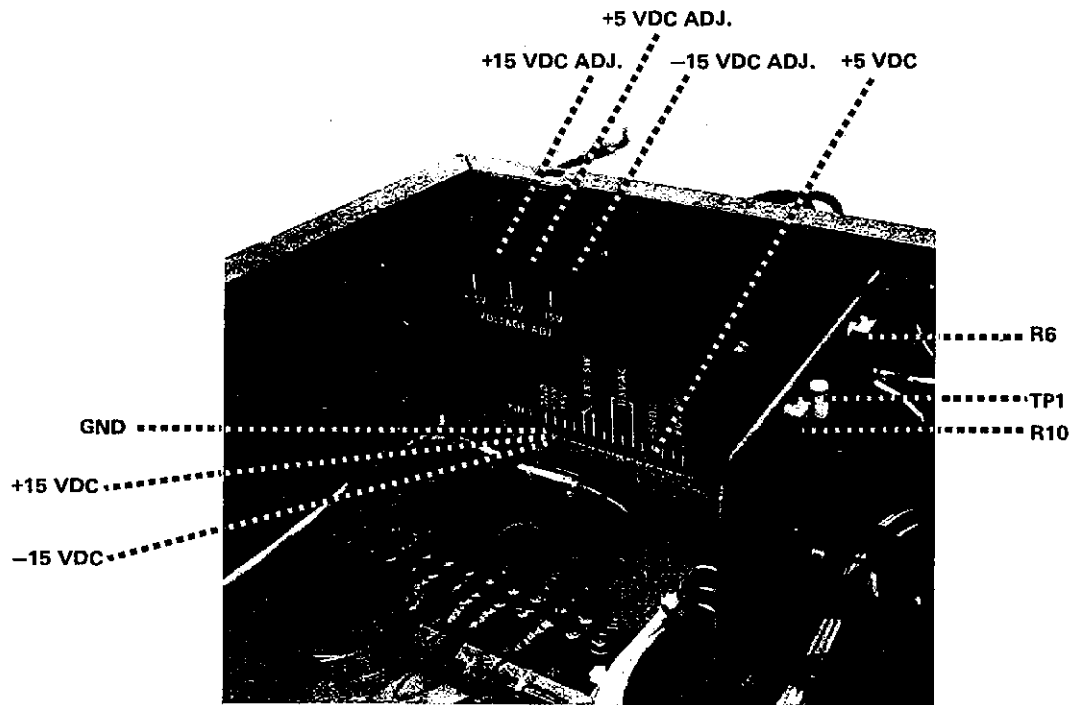
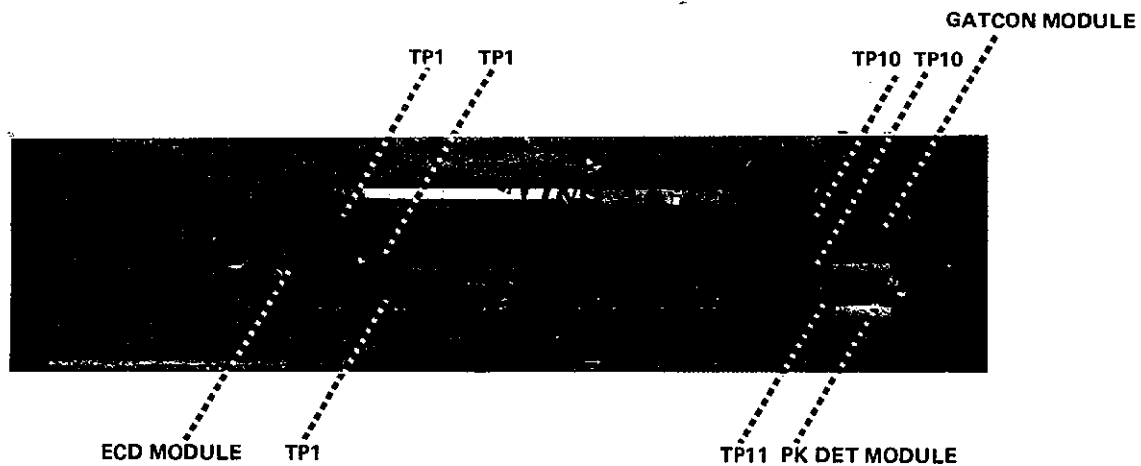
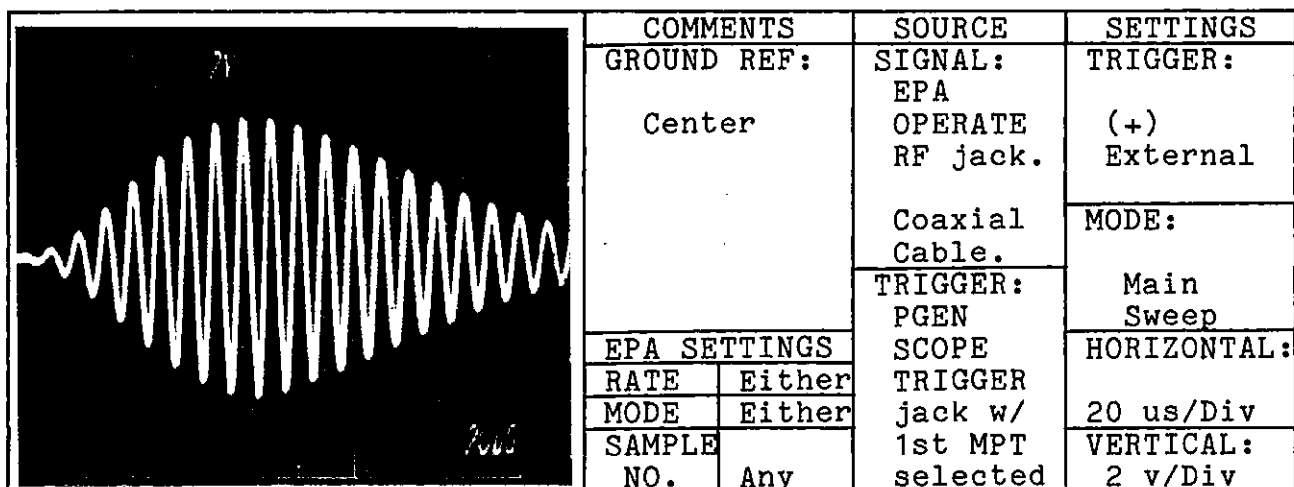

Figure 5.14. PS1 and CLP ATTN Test Point and Adjustment Locations
Figure 5.15. PK DET, GATCON, and ECD Test Point Locations
Figure 5.16. Operate RF Waveform
5.3.2.2 Electrical Pulse Analyzer. Figure 5.14 shows the locations of the voltage test and adjustment points of the (PS1) power supply of the EPA. It also shows the location of the test points and R10 of the Clip Attenuator module. Figure 5.15 shows the test point locations of the Peak Detector, Gate Control, and ECD modules. Figures 5.16 to 5.31 show the waveforms of various jacks and test points of the EPA.